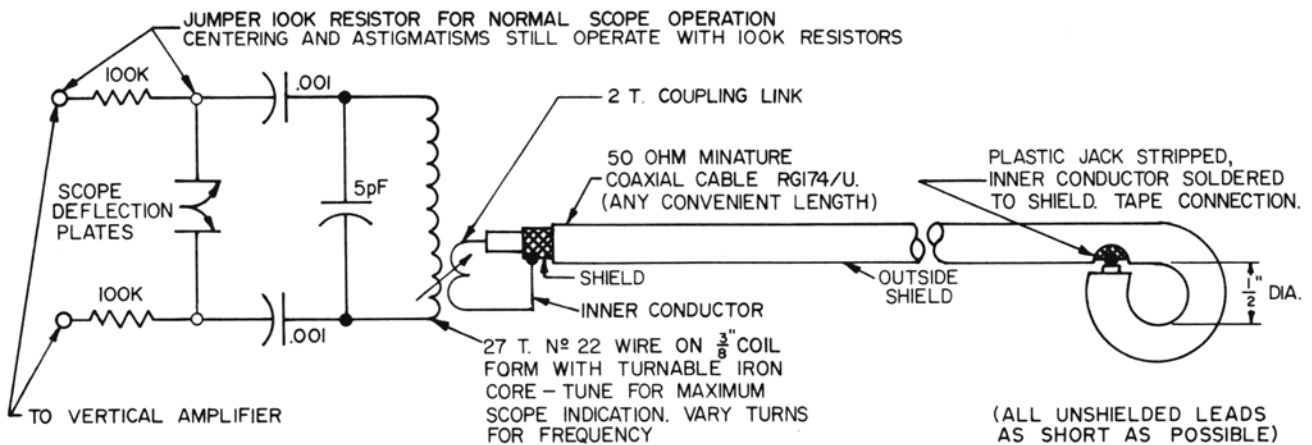

FIGURE 7
- RF Scope. Any scope with the simple tuned circuit (see Figure 7) added and fed directly to the Vertical plates.